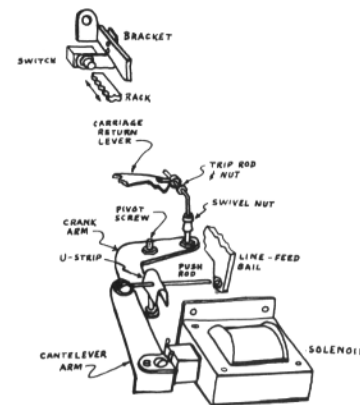

Fig. 1 LINKAGE PICTORIAL
Remove the cover from the Model 26 and examine the functions of the line-feed and carriage-return as you operate the machine from the keyboard with the power on. Note also that on the back of the machine adjacent to the hole in the cover is a lever called the carriage-return lever which may be tripped manually to return a stuck carriage (See Fig. 1). We intend to trip this same lever with the solenoid action.
10. Prepare a cantilever arm for coupling the solenoid plunger to the push rod. The length will depend upon the solenoid you use. Attach the arm to the plunger at right angles so that it cannot pivot. (Fig. 1)